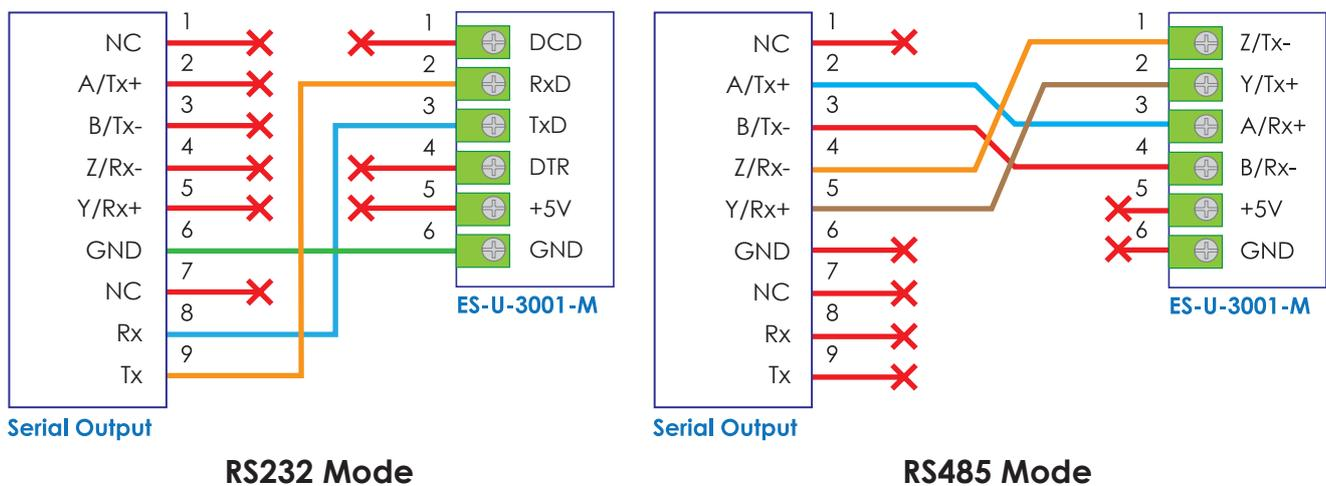

Figure 13. Connection of the control box in (a) USB mode (b) RS232 mode (c) RS485 mode
- d. The connection pinout of the RS232/485 serial output is illustrated in Figure 13. The connection pinout of RS232/485 Serial Output with ES-U-3001-M converter is illustrated in Figure 14(a).
- d. The connection pinout of the RS232/485 serial output is illustrated in Figure 13. The connection pinout of RS232/485 Serial Output with ES-U-3001-M converter is illustrated in Figure 14(b).